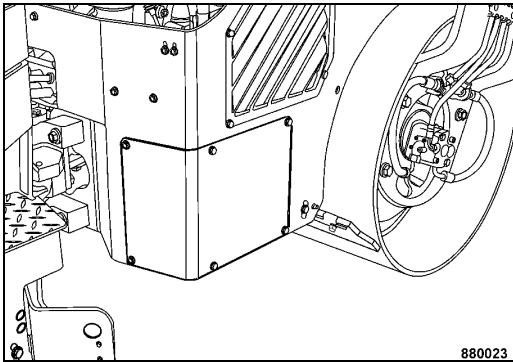

Fig. 60
- Remove the cover from the battery compartment (Fig. 60).